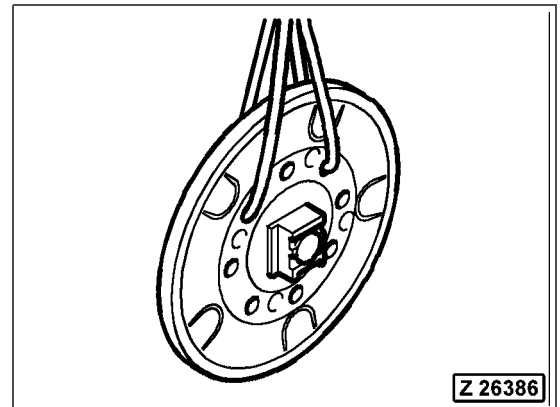

Fig. 4-23
8. Sling guide wheel assembly (Fig. 4-23) and pull the guide wheel assembly out of the crawler carrier.